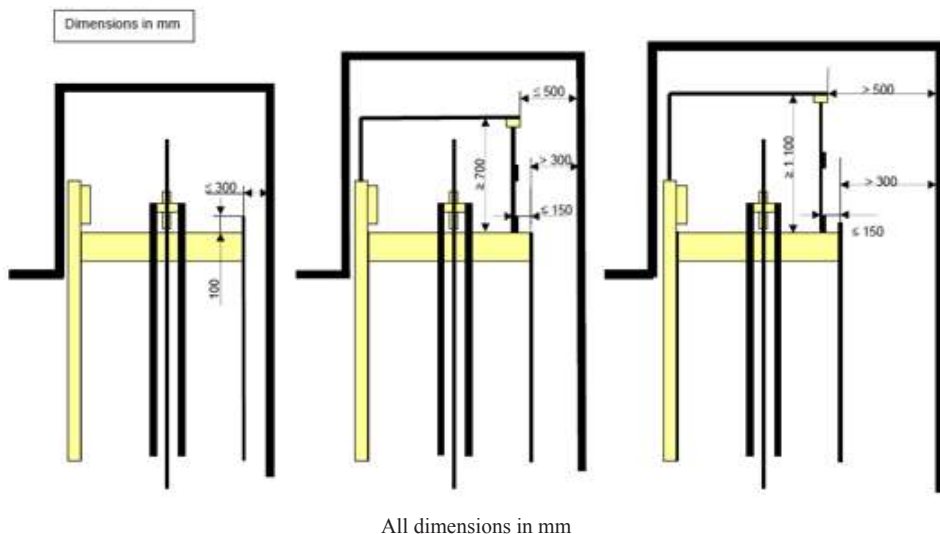

FIG. 8 TOP OF CAR GUARD RAIL OF BARRICADE-HEIGHT
9.5.2.3 Considering the free distance in horizontal plane beyond the outer edge of the guardrail of the barricade (*see* Fig. 8), its height shall be at least: